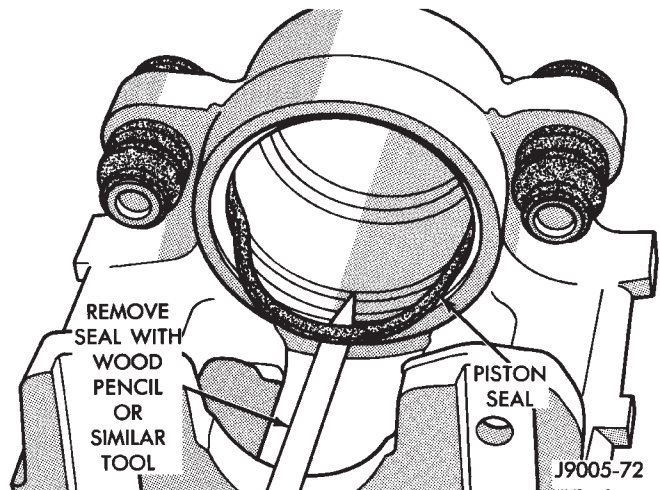

Fig. 18 Removing Caliper Piston Seal
(5) Remove and discard caliper piston seal with wood or plastic tool (Fig. 18). Do not use metal tools as they will scratch piston bore.